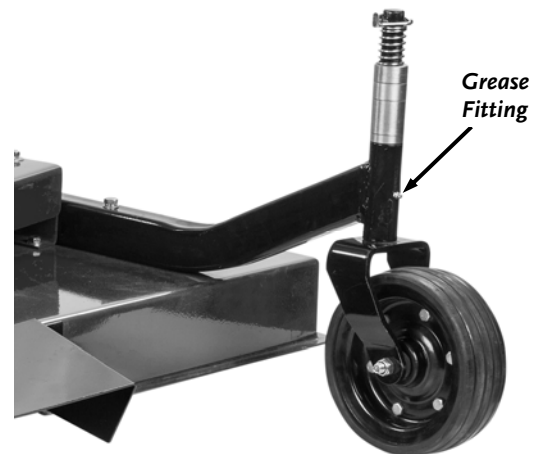

Figure 37
3. Wipe all dirt, etc., from the Wheel Support fitting with a clean cloth (Figure 37).